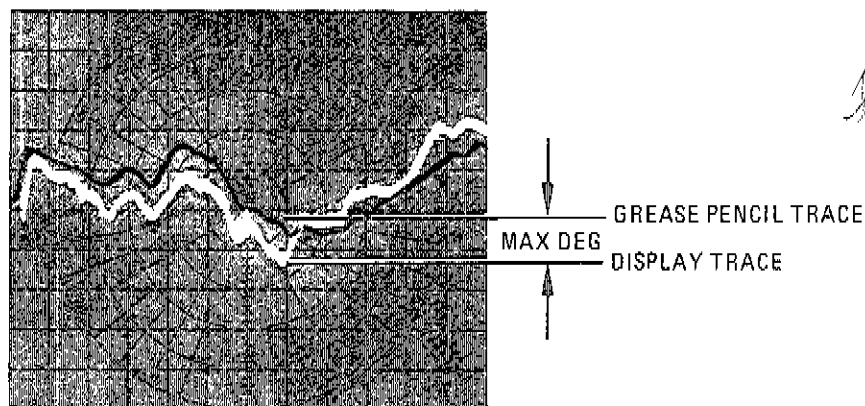

Figure 8. Transmission Frequency Response Phase
- (1) Set 8505A Signal Processor Channel 2 SCALE/DIV switch to 90 DEG.
- (2) On 8505A Signal Processor Electrical Length press the LENGTH pushbuttons and adjust VERNIER B control to display a horizontal trace on the CRT.
- (3) Set 8505A Signal Processor Channel 2 SCALE/DIV switch to 2 DEG and repeat step h (2).
- (4) On 8505A Signal Processor Channel 2 press MKR and ZRO pushbuttons.
- (5) On 8505A Signal Processor Channel 2 press the REF OFFSET pushbuttons to center the display around the grease pencil phase trace.
- (6) Measure the maximum difference between the grease pencil trace and the display trace (Figure 8). This measured value should be  $\leq 8^\circ$ .